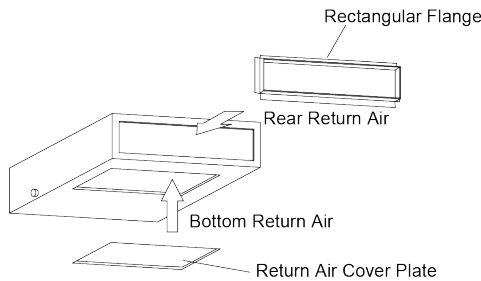

Fig. 4.35
- (2). The default installation location of the rectangular flange is at the back and the return air cover plate is at the bottom, as shown in Fig. 4.35.